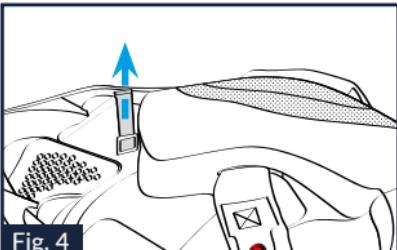

Fig. 4
5.2. Gently pull the red strap in the front area of the pad of the left cheek pad to release the safety lever on its back (Fig. 4).